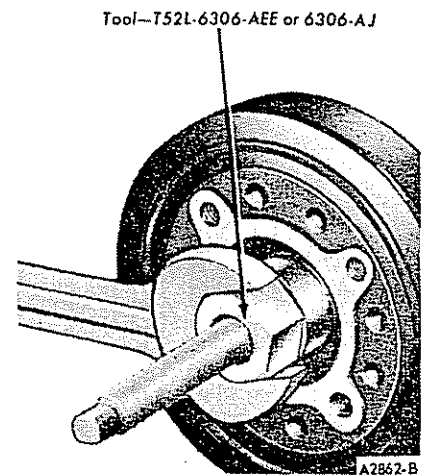

FIG. 55 Installing Crankshaft Vibration Damper
12. Line up the crankshaft vibration damper keyway with the key on the crankshaft. Install the vibration damper on the crankshaft (Figure 55). Seal bolt & washer contact surface and install the cap screw and washer. Tighten the screw to specifications. Install the crankshaft pulley.